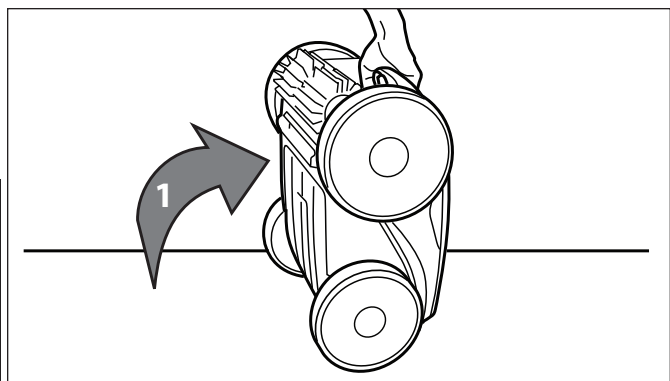

Figure 27. Clean in Upright Position
1. Lift the cleaner to a vertical position so that the handle is up. Refer to Figure 27.